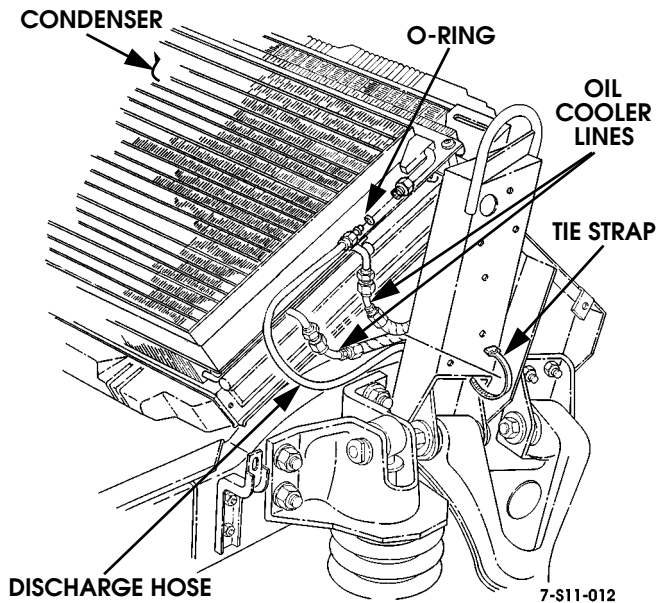

Figure 11-19: Discharge Hose Location
4. Disconnect discharge hose from condenser. Remove and discard O-ring (Figure 11-19).